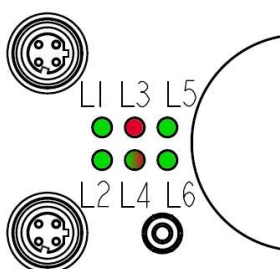

Figure 6: Diagnostic LEDs
4.3 Diagnostic LEDs (Figure 4 and Figure 6)